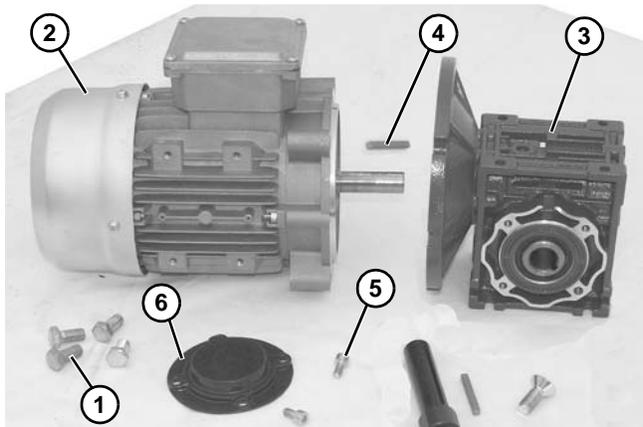

Figure 29
- Remove four screws (**Figure 29, item 1**). Detach motor (**Figure 29, item 2**) from gear reducer (**Figure 29, item 3**). Retain motor output shaft key (**Figure 29, item 4**).
- Remove two (2) screws (**Figure 29, item 5**) and detach output shaft cover (**Figure 29, item 6**).
4. Apply anti-seize to motor shaft before assembling to gearbox. With key (**Figure 29, item 4**) in keyway, slide motor (**Figure 29, item 2**) and gear reducer (**Figure 29, item 3**) together. Install screws (**Figure 29, item 1**) and tighten.
5. Install output shaft cover (**Figure 29, item 6**) and secure with two (2) screws (**Figure 29, item 5**).
8. Install gearmotor to mounting bracket and tighten screws (**Figure 29, item 1**) to 103 in-lb (12 N-m).